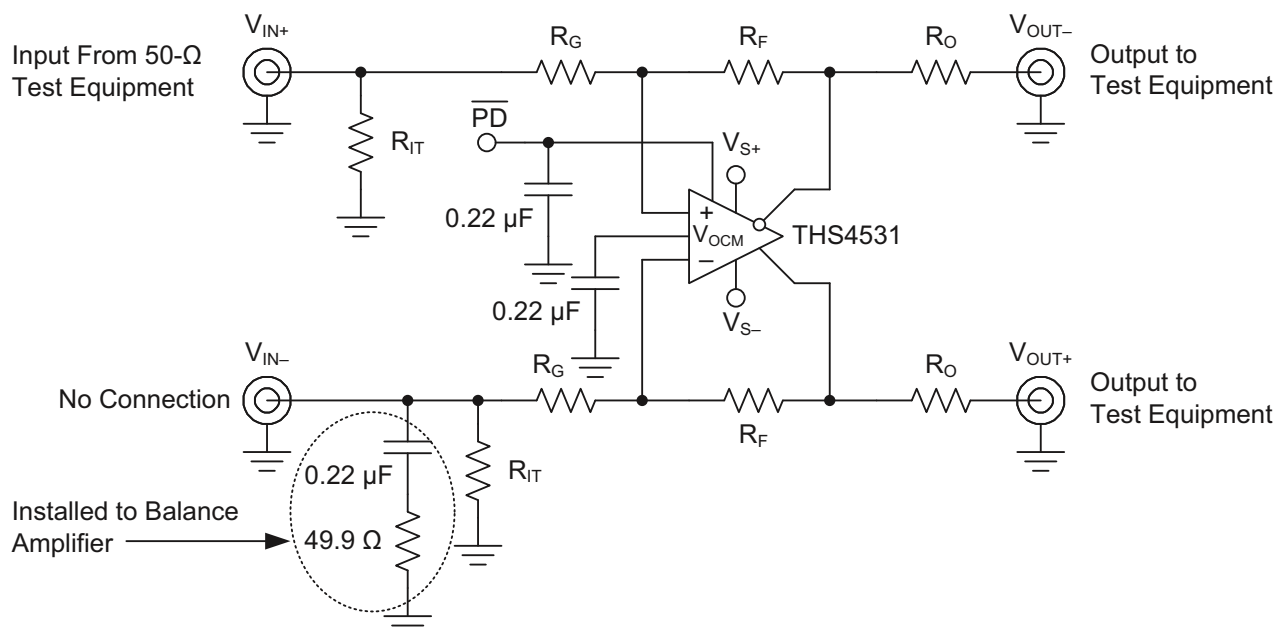
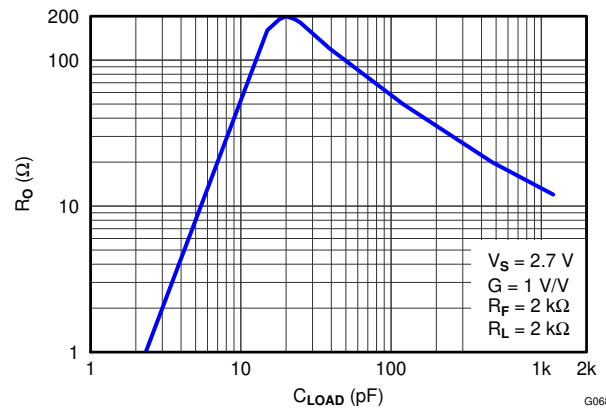
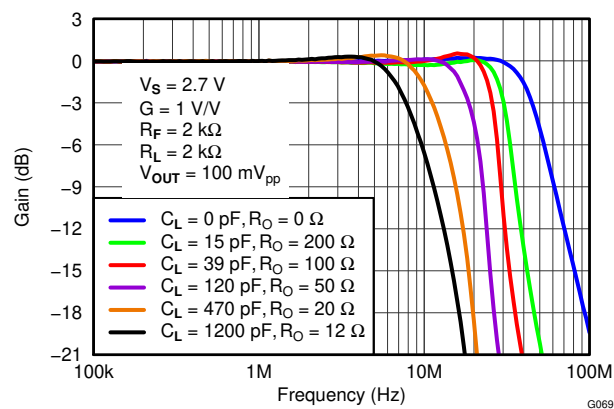

Figure 69. Slew Rate, Transient Response, Settling Time, Z_O , Overdrive Recovery, V_{OUT} Swing, and Turn-On and Trun-Off Test Circuit
Figure 78. Recommended Series Output Resistor vs Capacitive Load for Flat Frequency Response
Figure 79. Frequency Response for Various R_O and C_L Values
The circuit shown in Figure 69 is used to measure slew rate, transient response, settling time, overdrive recovery, and output voltage swing. Turn-on and turn-off times are measured with 50 Ω input termination on the $\overline{PD}$ input, by replacing the 0.22 μ F capacitor with 49.9 Ω resistor.
Inserting R_O will compensate the phase shift and restore the phase margin, but it will also limit bandwidth. The circuit shown in Figure 69 is used to test for best R_O versus capacitive loads, C_L , with a capacitance placed differential across the V_{OUT+} and V_{OUT-} along with 2 k Ω load resistor, and the output is measure with a differential probe. Figure 78 shows the optimum values of R_O versus capacitive loads, C_L , and Figure 79 shows the frequency response with various values. Performance is the same on both 2.7 V and 5 V supply.
4. A series output resistor is recommended to be placed as near to the output pin as possible. See Figure 78 Recommended Series Output Resistor vs. Capacitive Load for recommended values given expected capacitive load of design.